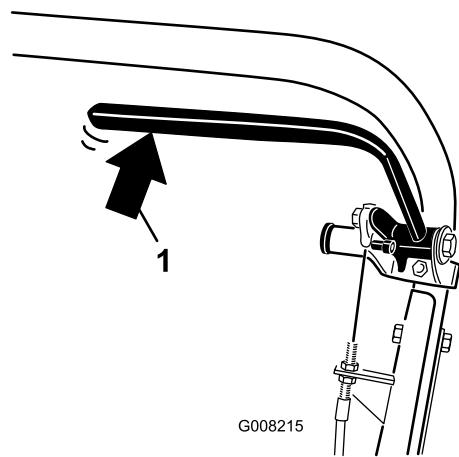

Figure 32
2. Using a spring scale, press rearward on the service-brake lever (Figure 32). The parking brake should release when a force of 13.5 to 18 kg (30 to 40 lb) is attained. If the parking brake releases before 13.5 to 18 kg (30 to 40 lb) of force is attained, adjust the brake cable. Proceed to step 3.